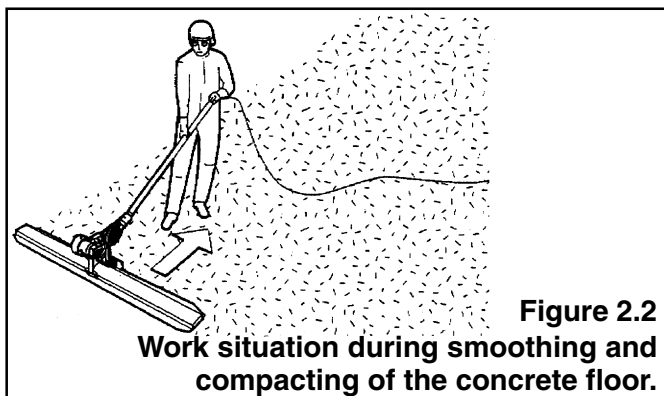

Figure 2.2
7. After having finished one lane of concrete, switch off the Wet Screed immediately, by turning the speed regulator's knob to the position 'Minimal'. You will hear a "CLICK". (Fig. 2.2, on page 11)